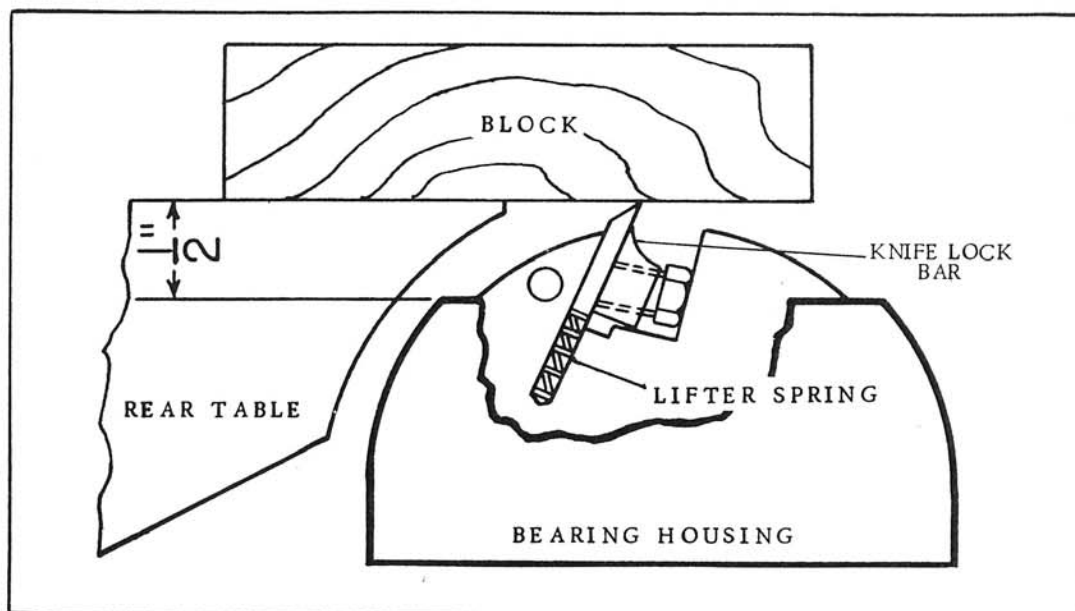
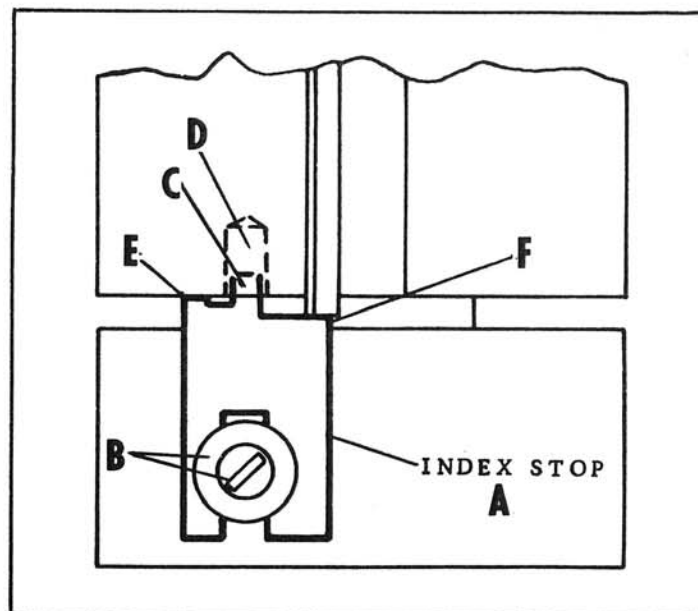

Fig. 7
Fig. 8
2. Move the rear table to 1/2" above the bearing housing, as shown in Fig. 7.
4. If replacing knives, thoroughly clean the cutterhead, knife lock bars and screws after removing the old knives. IMPORTANT: ALTHOUGH THE SMALL LIFTER SPRINGS FIG. 7, UNDER EACH KNIFE ARE SECURELY SET IN THE CUTTERHEAD, MAKE SURE THAT THEY DO NOT BECOME LOST WHEN REMOVING THE KNIVES.
5. Attach index stop (A) Fig. 8, to left hand bearing housing, using screw and washer (B), making sure the end of the stop (C) is engaged in one of the three holes (D) provided in the cutterhead, as shown in Fig. 8. Make sure the index stop, at point (E), Fig. 8, is against side of cutterhead, as shown.
6. Tighten screw (B) Fig. 8, aligning the index stop (A) parallel to cutterhead.
7. Place knife in slot over lifter springs, as shown in Fig. 7, with left hand edge of knife against index stop at point (F) as shown in Fig. 8. This will insure the necessary uniform projection of each knife for rabbeting.
8. Install knife lock bar, shown in Fig. 7, positioning it centrally in the cutterhead.